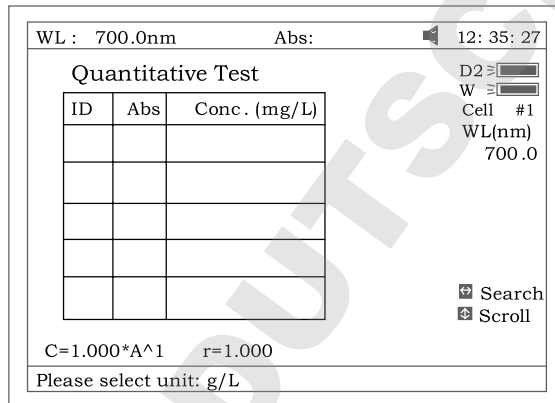

Fig 26
1. Press **【F1】** to select unit of concentration (Fig 26).